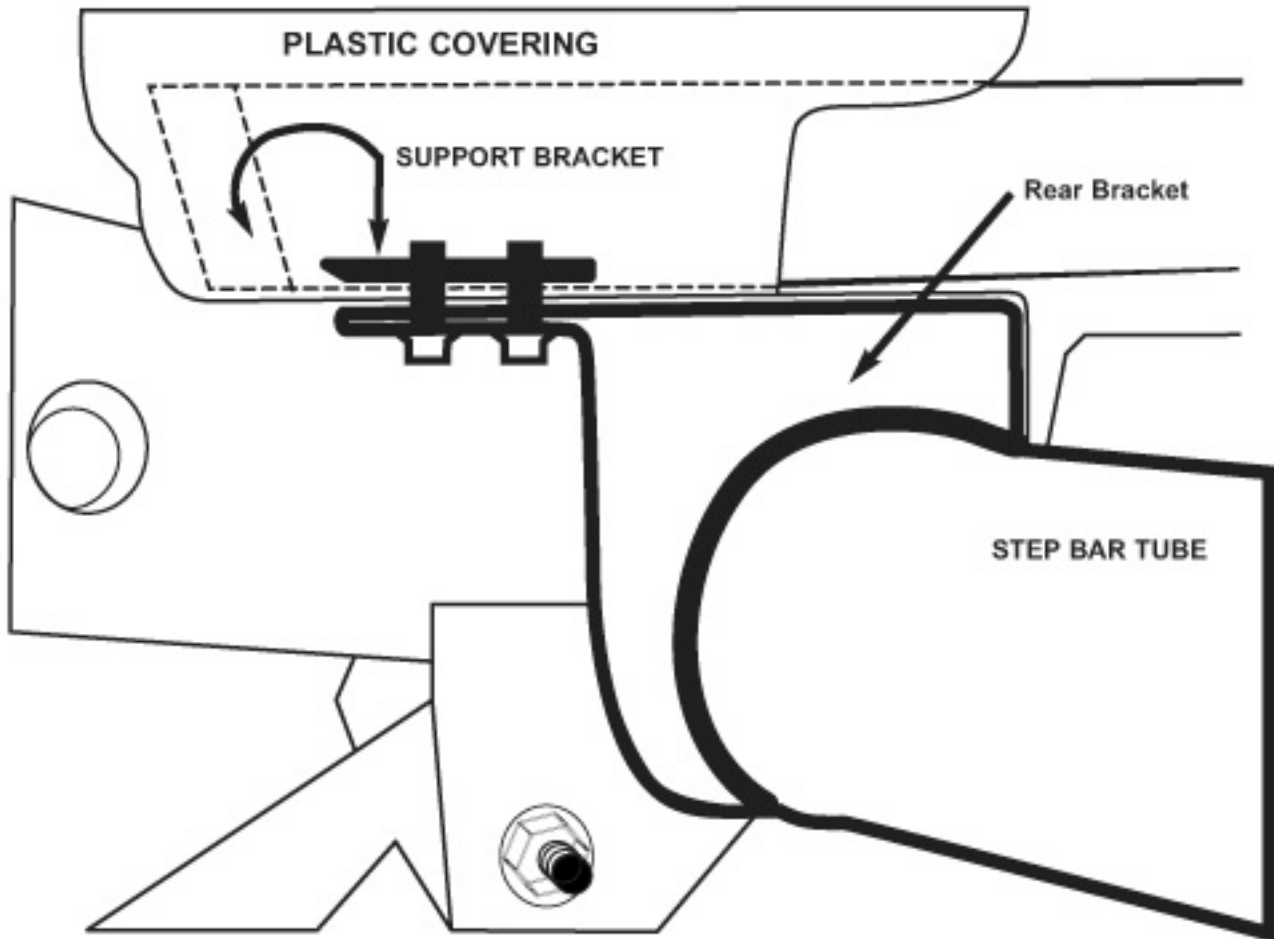

FIGURE 3 - REAR PASSENGER-SIDE BRACKET
3. Locate the rear support bracket and install by pulling back the plastic covering. Place the support bracket inside cavity and align holes with rear brackets and install using M10 hardware. **SEE FIGURE 3**